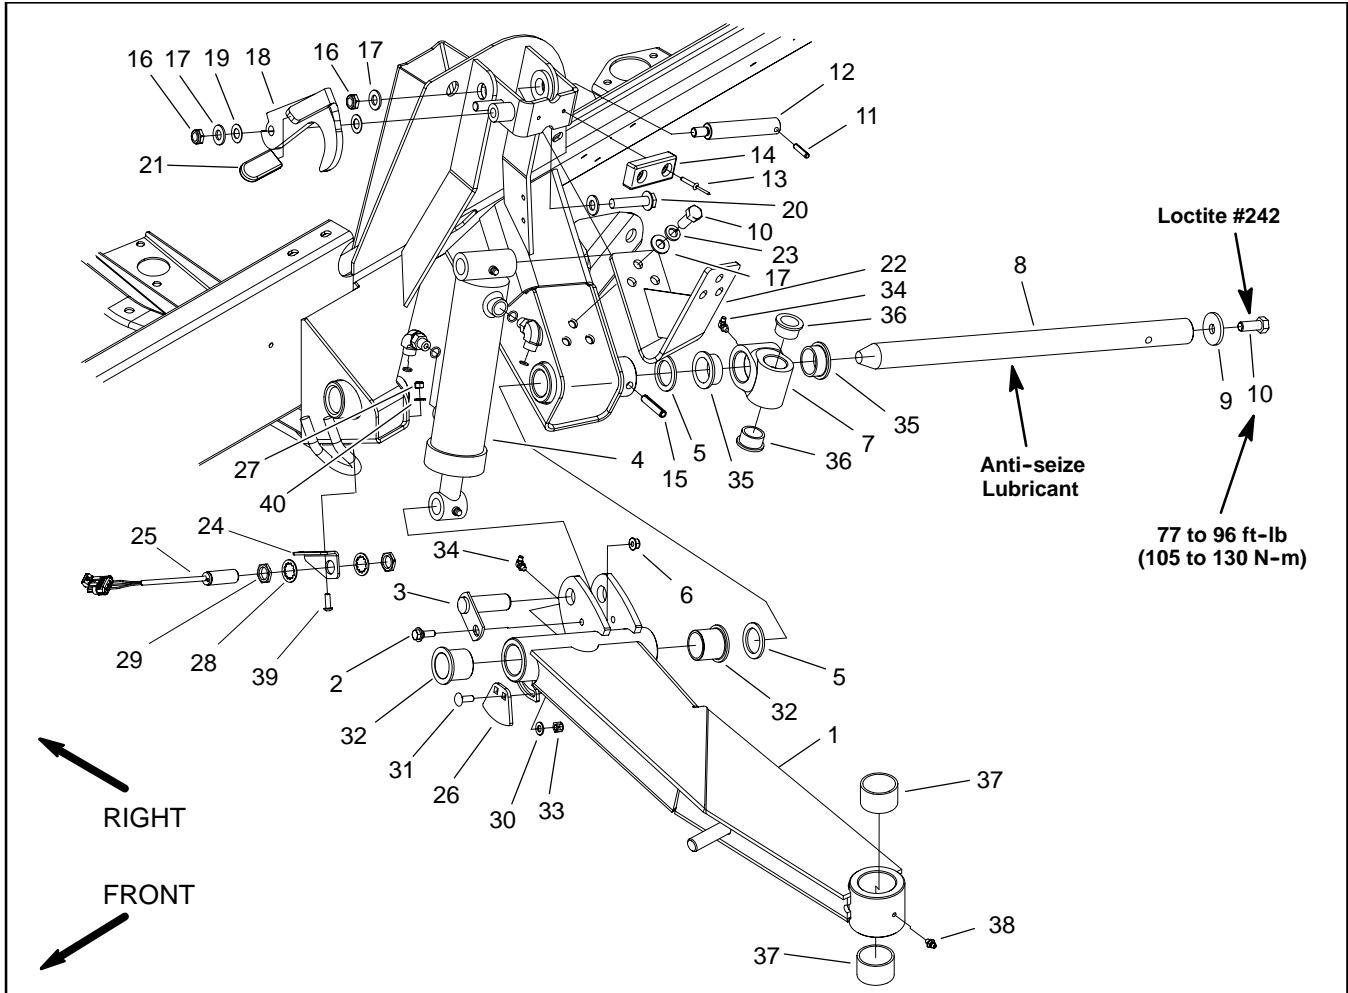

Figure 5
## Removal (Fig. 5)
## Installation (Fig. 5)
2. Position lift arm to frame with thrust washers properly placed (Fig. 5). Slide pivot shaft into frame and lift arm until roll pin holes in shaft and frame align.
5. Align lift cylinder with lift arm. Secure lift cylinder to lift arm with lift cylinder pin (item 3).
7. If sensing plate (item 26) was removed from lift arm, secure plate so it is rotated as far as possible toward center of machine.